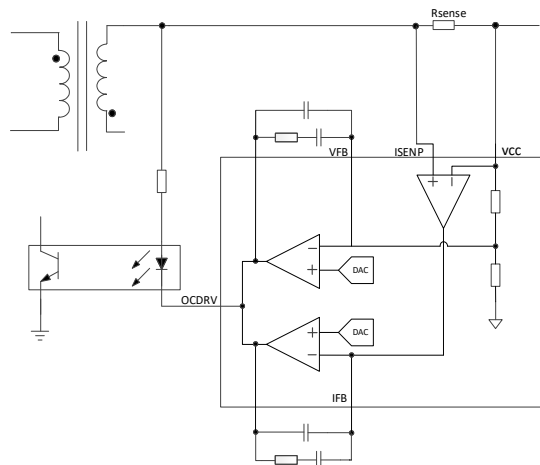

Figure 4. The CC/CV Control Loop in AP43781
The AP43771V uses Constant Voltage (CV) and Constant Current (CC) functions to control the output voltage and current as shown in Figure 4, where both loops are connected at OCDRV pin, and the feedback signal is photo-coupled from the PD controller to the primary power stage.